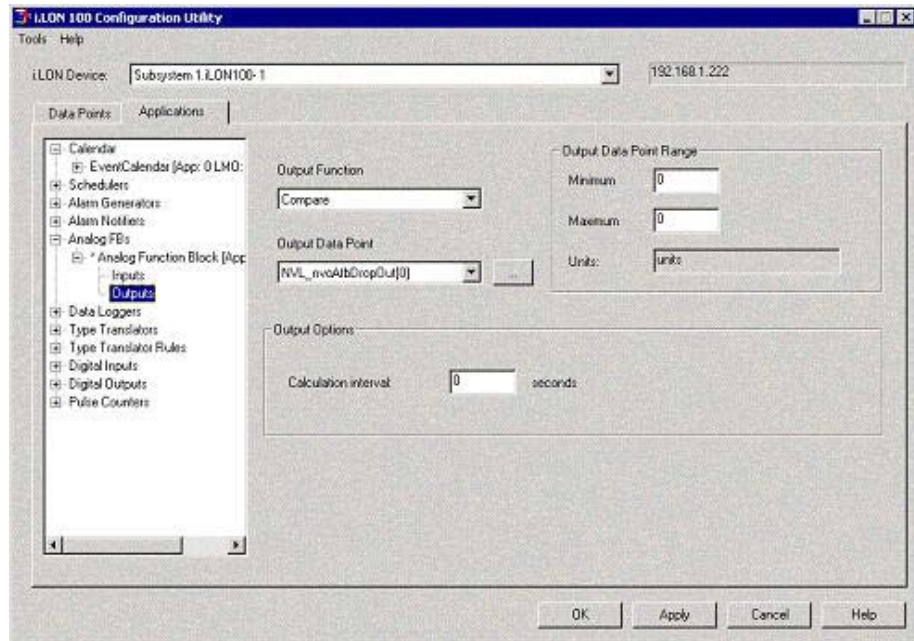

Figure 11.13 Outputs Dialog
3. Click **Outputs** under the analog function block on the Applications list. The **Outputs** dialog opens, as shown in Figure 11.13.